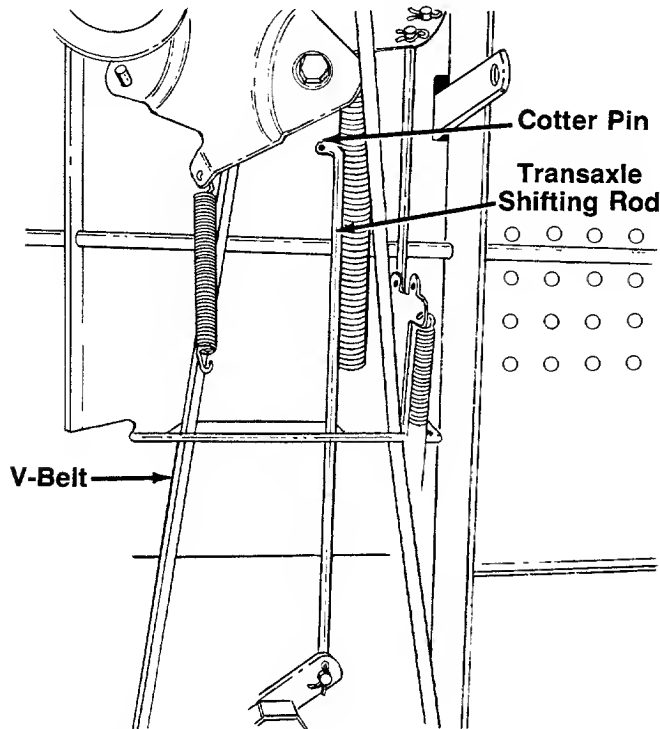

FIGURE 20.
10. Remove the cotter pin from the transaxle shifting rod and pull it out of the bracket. See figure 20.